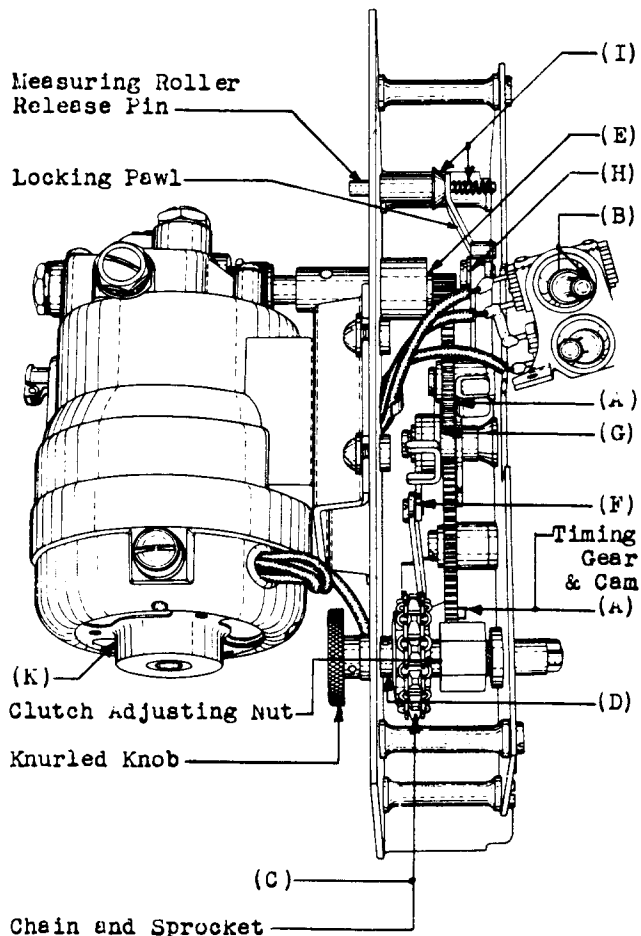

Fig. 2 - KS-8320 Camera - Motor Drive Unit
- (1) Chain and Sprocket - Fig. 2 (C)
- (2) Timing Gears and Cam - Fig. 2 (A)
- (3) Motor and Lamp Control Switch Knobs and Pins - Fig. 2 (B)
- (1) Take-Up Spindle Bearings - Fig. 2 (D)
- (2) Drive Shaft Bearings - Fig. 2 (E)
- (3) Shutter Rod Bearing - Fig. 2 (F)
- (4) Motor Switch Lever Bearing - Fig. 2 (G)
- (5) Locking Pawl Bearing - Fig. 2 (H)
- (7) Measuring Roller Release Pin Bearing and Spring - Fig. 2 (I)
KS-8320 Camera: Front and Rear Motor Bearings - Fig. 2 (J) and (K)